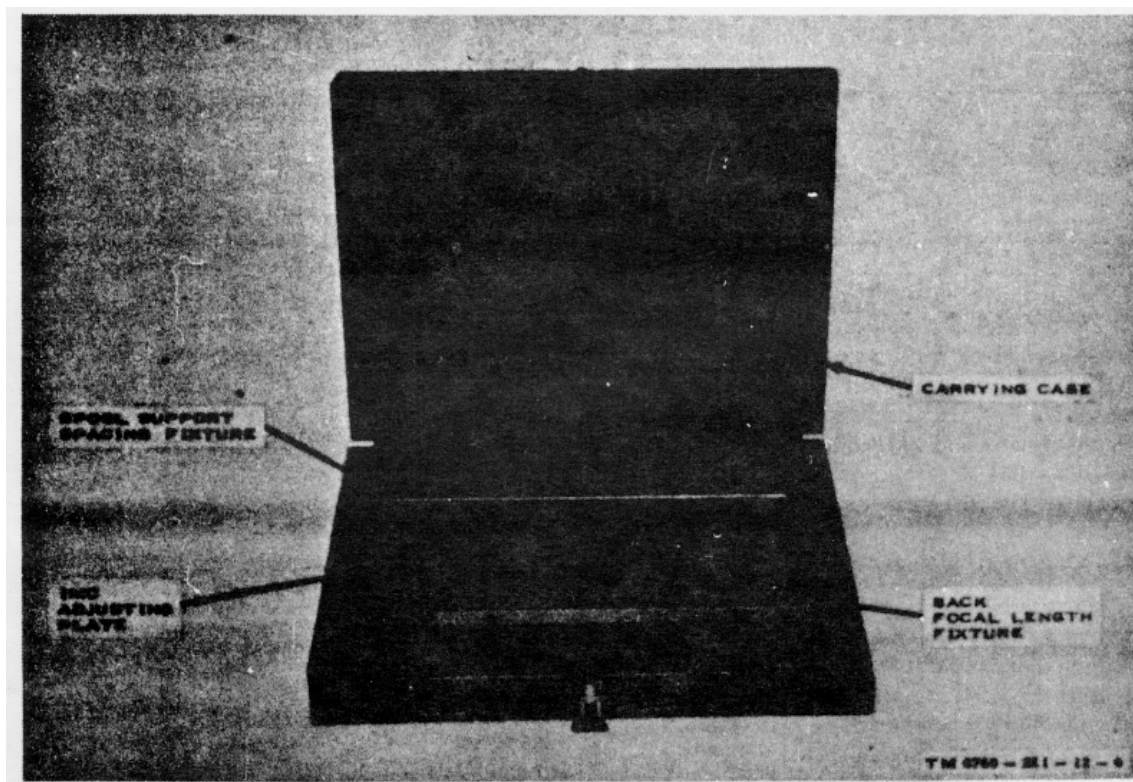

Figure 6. Tool Kit, Camera Alignment and Adjustment LS-49A.
- (4) *Too II Kit, Camera Alignment and Adjustment LS-49A* (fig. 6). The LS-49A consists of three tools which are used to align and adjust the magazine assembly of Camera, Still Picture KA-39A.